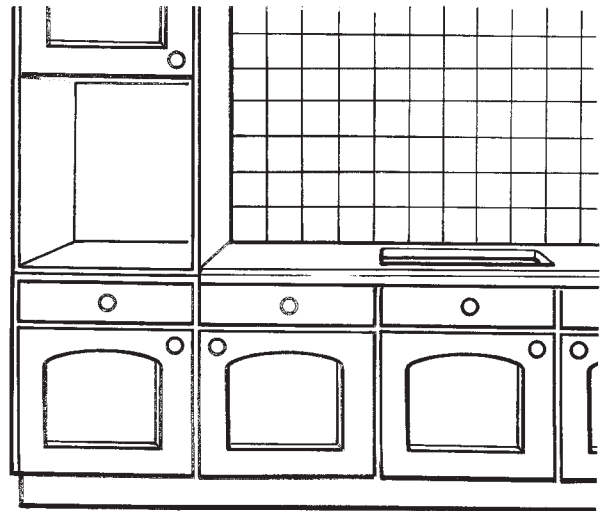

Figure 2 - separate installation
2. Oven and hob installed separately into individual housing units as shown in Figure 2.